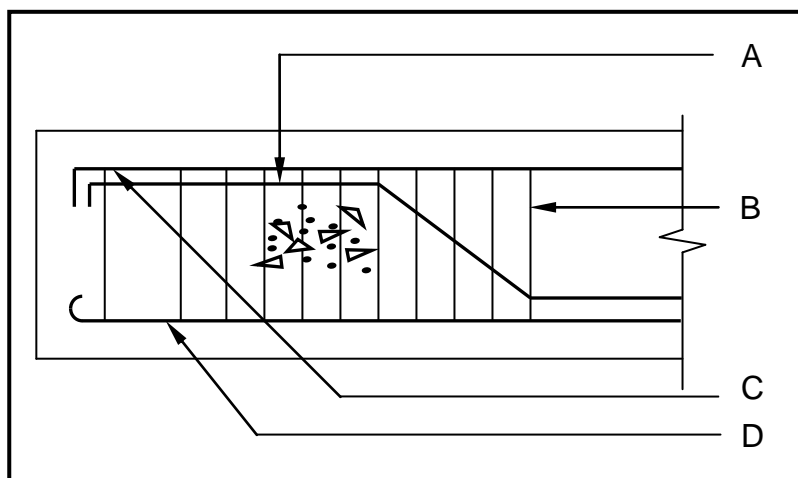

FIGURE 2.8
2.8 FIGURE 2.8 below shows a drawing of the reinforcing of a beam.